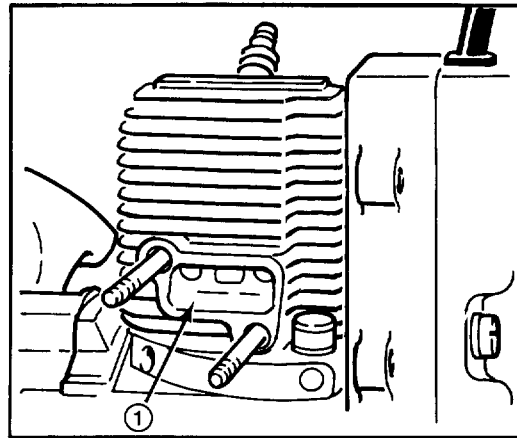

Figure 15
2. Remove two (2) nuts securing muffler, and using care not to damage muffler gasket, remove muffler.
4. Rotate the engine crankshaft until the piston totally covers the exhaust port (Fig. 15). Clean the exhaust port area by using a clean, flat piece of hard wood. Remove all loose particles.